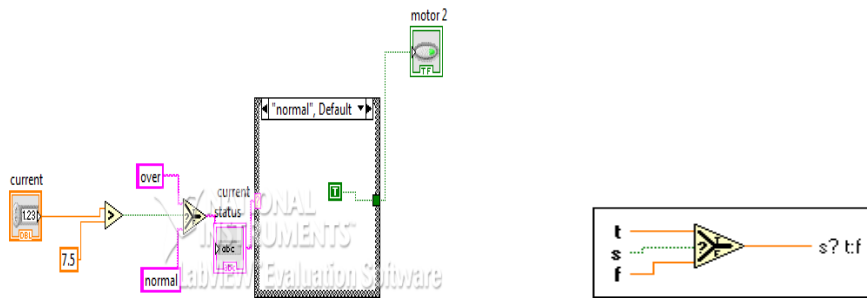

**Fig4.1: VI of 3-Phase Ac Motor**
- [6] In the **Supported Physical Channels** list, select the physical channel to which the device connects the signal, such as **ai0**, and then click the **Finish** button. The DAQ Assistant opens a new dialog box, shown in Figure 4-1 that displays options for configuring the channel you selected to complete a task.